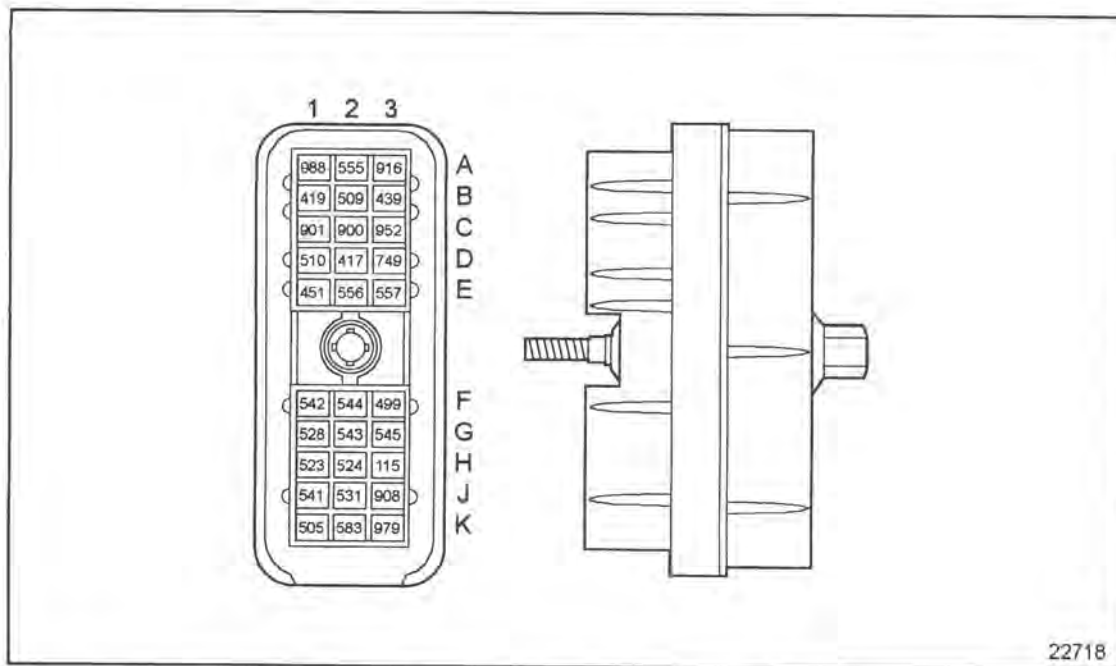

Figure 10-4 ECM Vehicle Interface Harness Connector
2. Disconnect the vehicle harness connector at the ECM. For vehicle harness schematic, see Figure 10-4.